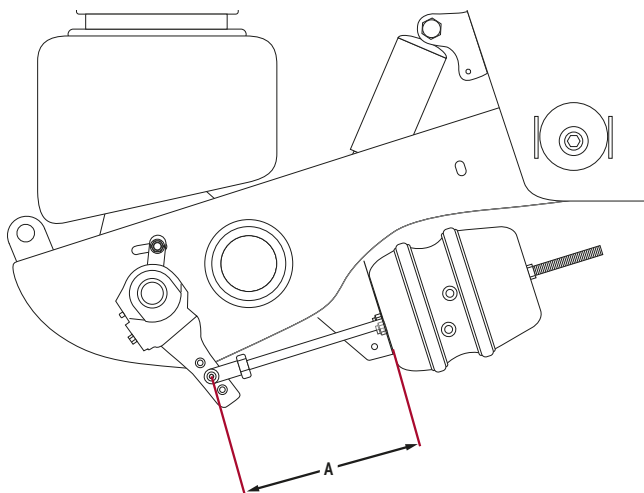

Figure 100: Brake Chamber Retracted Length = A
The distance measured from brake chamber to clevis pin (A) should be made with brake chamber fully retracted. This measurement is used when calculating brake **Free Stroke** and **Applied Stroke**. Refer Figure 100.